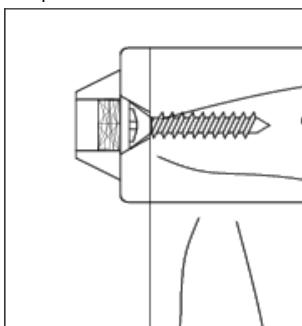

Figure 1
- 2) **MOUNTING THE FURNITURE-SIDE BRACKET:** Move the furniture item close to the wall to its final position. Use pieces of tape or a pencil to transcribe the stud locations of the wall onto the furniture item. Move the furniture item again so you can access its back and use the marks to locate a suitable mounting point for the furniture-side mounting plate. Make sure that the mounting plate is secured to a firm portion of the furniture frame and as high as possible. Remember: The furniture-side mounting plate must be positioned near a wall stud. Using a pencil, and the mounting plate as a guide, mark "screw marks" on the furniture item through the mounting plate holes. Use a 3/32" drill bit to drill pilot holes into the furniture item at the "screw marks". Use the TWO Short screws to secure the furniture-side mounting plate. This mounting plate can be positioned either vertically or horizontal as necessary (See Figure 1).